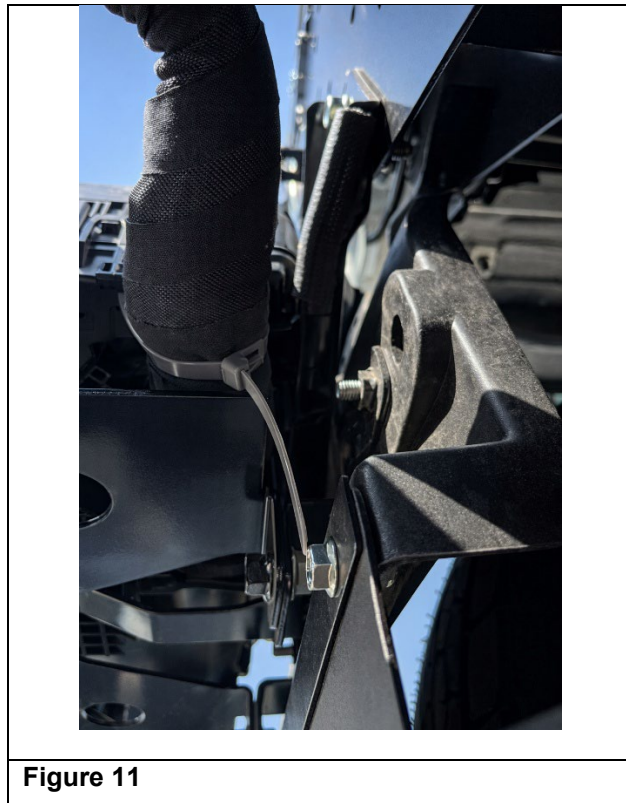

Figure 11
9. Adjust the tie strap so that it pulls the wire harness towards the fuse box center tab. Confirm sufficient clearance with the mud flap bolt. (See Figure 11.)